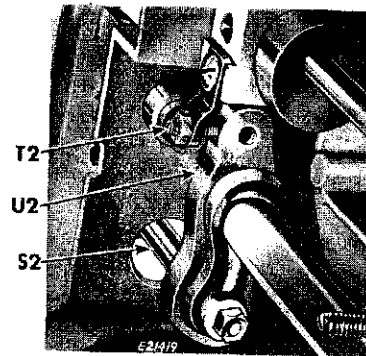

Fig. 17. Regulating Feed Throw-Out Stop Screw
6. Set feed throw-out stop screw T2, Fig. 17 so that clearance between feed throw-out lever U2, Fig. 17 and stop screw T2 is from .002" to .006"